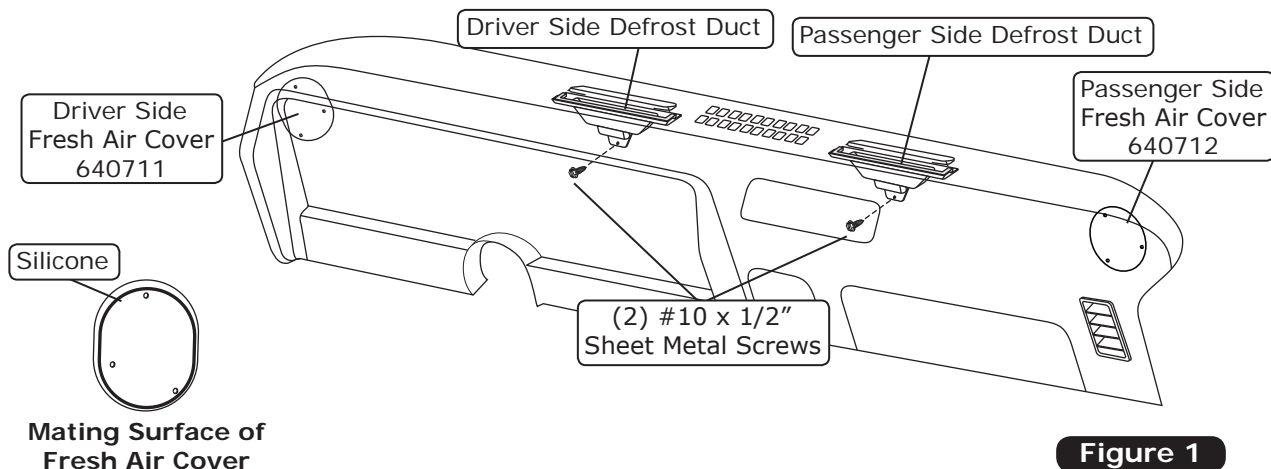

Figure 1
1. Locate the (2) defrost assemblies (See Photo 1, below)
2. Install the defrost ducts under the dash (See Figure 1, below). Align each defrost duct with the defrost opening in the dash, and hold it in place. Using the bracket as a template, drill a 7/64" hole for each duct as shown below. Secure each defrost duct using a #10 x 1/2" sheet metal screw (See Figure 1, below).
3. If the vehicle is equipped with astro ventilation, apply a 1/4" bead of silicone to the mating surface, and install the driver and passenger side fresh air covers, using OEM hardware to secure (See Figure 1, below).